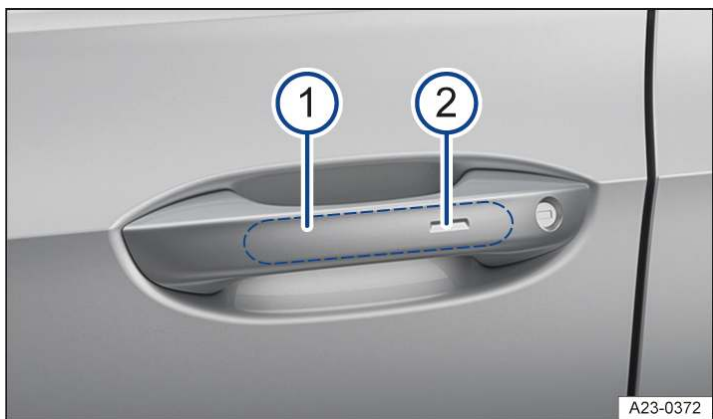

Fig. 2 In the door handle: sensors.
1. Touch the sensor → Fig. 2 ① on the inside of the door handle.
2. Touch the sensor → *Fig. 2* (2) on the outside of the door handle.